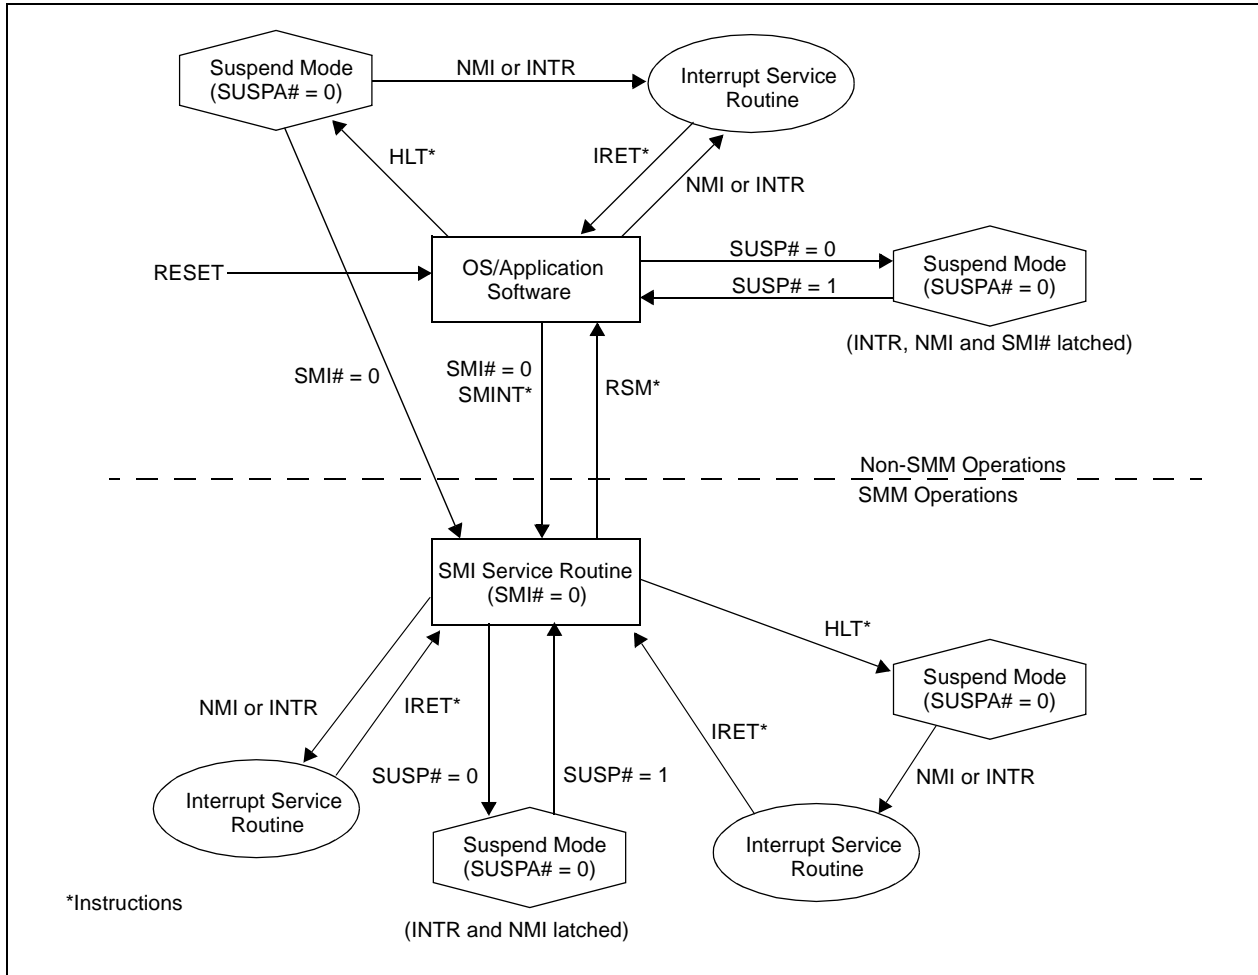

Figure 3-12 SMM and Suspend Mode State Diagram
The state diagram shown in Figure 3-12 illustrates the various CPU states associated with SMM and Suspend mode. While in the SMI service routine, the MediaGX processor core can enter Suspend mode either by (1) executing a halt (HLT) instruction or (2) by asserting the SUSP# input.